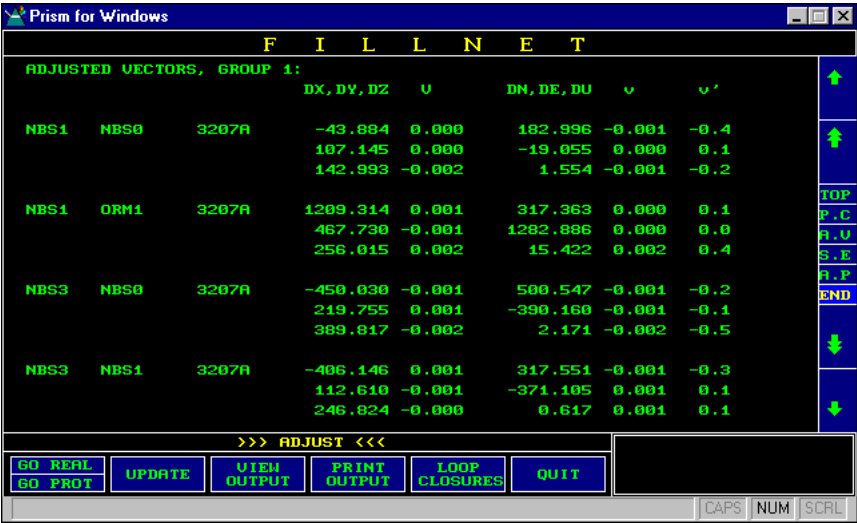

Figure 3.9: Adjusted Vector Display
20. Click on the **A.V.** (adjusted vector) button at the right edge of the display. The adjusted vector portion of the output will appear, as shown in Figure 3.9.